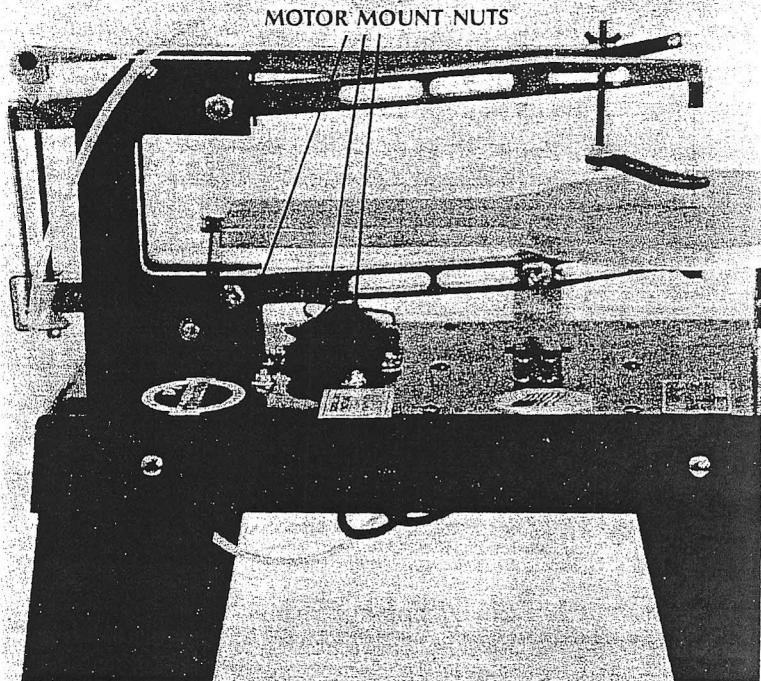

Fig. 14
2. Loosen and remove the two 1/4" carriage bolts that fasten the HA-25 Bellows Bracket to the saw base. Raise the HA-24 Rubber Bellow off of the HA-111 Saw Base so that the 1/4" whiz nut beneath it may be reached (Fig. 14).